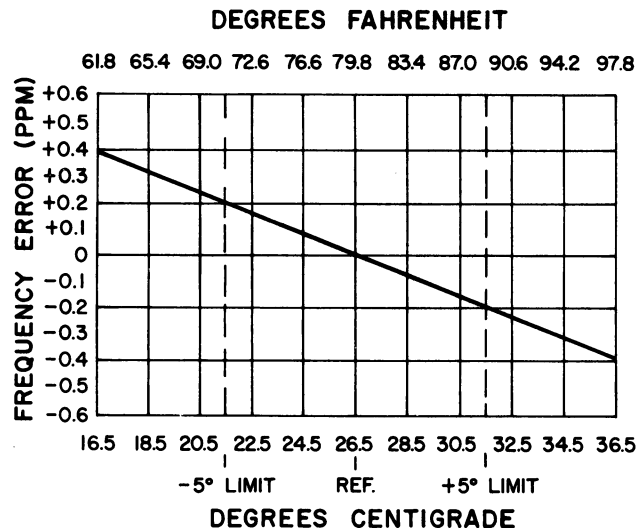

Figure 2 - ICOM Frequency Offset Chart
- b) Maintain the radio at 26.5°C ($\pm 10^\circ\text{C}$) and offset the oscillator, as a function of actual temperature, by the amount shown in Figure 2.
- To hold setting error to ± 0.35 PPM (which is considered reasonable for 2 PPM ICOMs): Maintain unit at 26.5°C ($\pm 5^{\circ}\text{C}$) and offset the oscillator, as a function of actual temperature, by the amount shown in Figure 2.